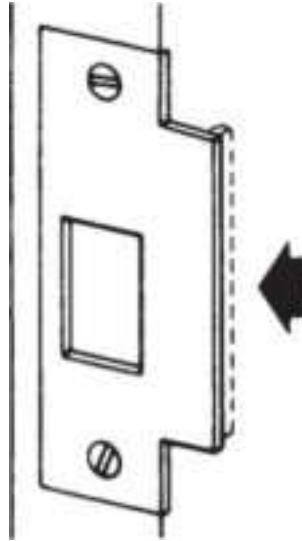

**Figure 13.29** Bending strike.
***Problem 3: Latchbolt "stubs" on the strike lip.*** Bend the strike slightly back toward the jamb. Wax or paraffin makes an excellent lubricant, as does silicone spray (Fig. 13.29 ).